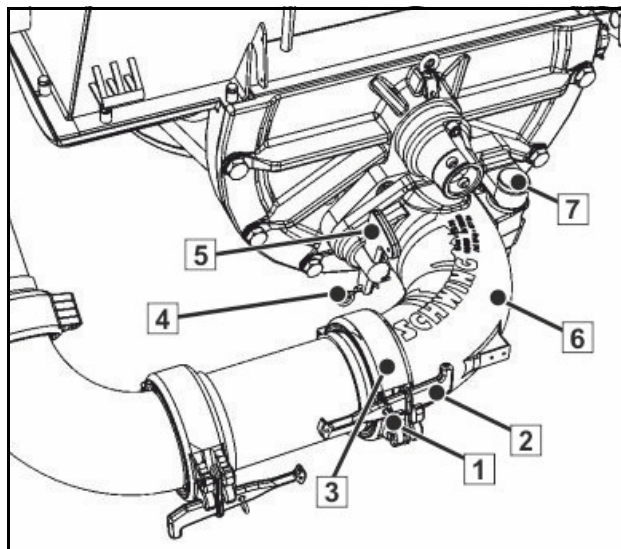
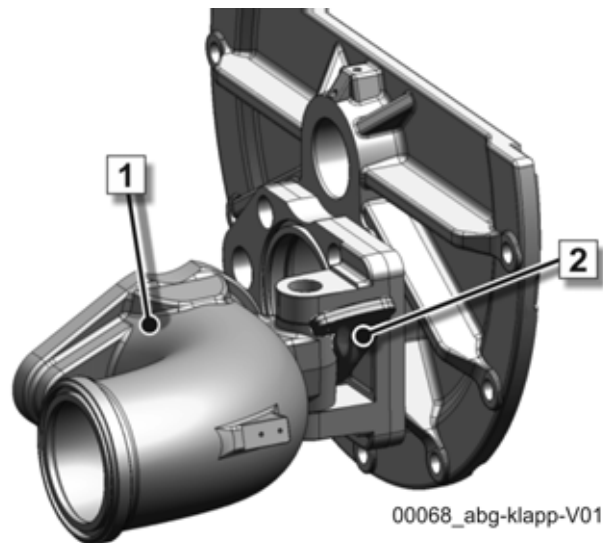

Fig. 148 Foldable outlet
Fig. 149 Wedge lock
- Pull the clip pin (1) (**Fig. 148**)
- Loosen the wedge (2)
- Remove the coupling (3)
- Pull the clip pin (4) out of the wedge (5)
- Remove the wedge (5) (**Fig. 148**) and keep it ready to use as a chock for the hinge (7)
- Fold open the outlet (6) to the right
- At an opening angle of approx. 100°, the wedge (5) (**Fig. 148**) can be wedged into the notch on the hinge, as illustrated in (**Fig. 149**).